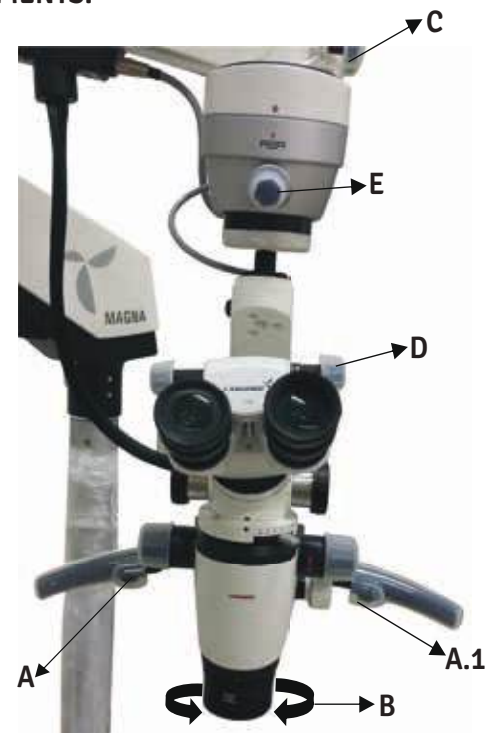

Fig. 19
- Optimize the Auto Balancing Arm (ABA) position by using clutch motions shown as (A) and (A.1) to get the proper field of vision as shown in Fig. 19.
- Desired working distance can be obtained by rotating the ring shown as (B) on the variable objective lens. Fine focusing can be done by the same ring as shown in Fig. 19.
- After focusing, lock swivel arm, suspension arm and ABA arm movements using lock knobs shown as (C) in Fig. 19.
- Adjust the inter-pupillary distance (IPD) of the eyepieces using the IPD adjustment knob shown as (D) in Fig. 19.
- The illumination is controlled through the intensity control knob shown as (E). Rotate it clockwise or anticlockwise to achieve the desired illumination level as shown in Fig. 19.
- Refer Fig 19 Use the Clutch Buttons shown as (A) on Left handle and (A.1) on Right handle to Centre the area of interest in the field of view.